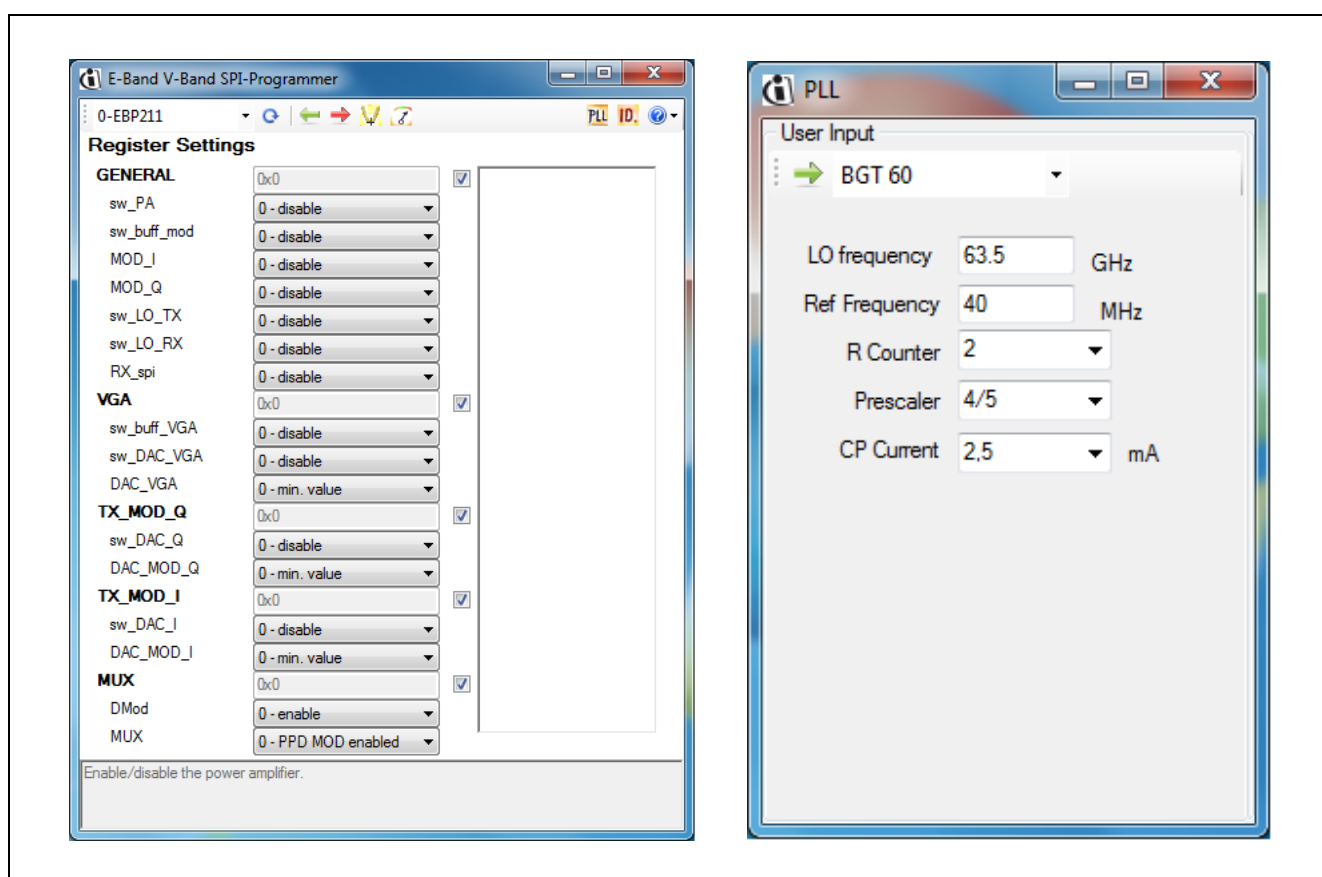

Figure 23 V-Band SPI-Programmer Main Window and PLL Window
- 2) In the software folder supplied with this transceiver navigate to “E-Band V-Band SPI-Programmer.exe” and double click on it. A window will open as shown in **Figure 23** below.
- 3) Click on the “PLL” button on top right corner of this window. Another window will open which looks like **Figure 23**.